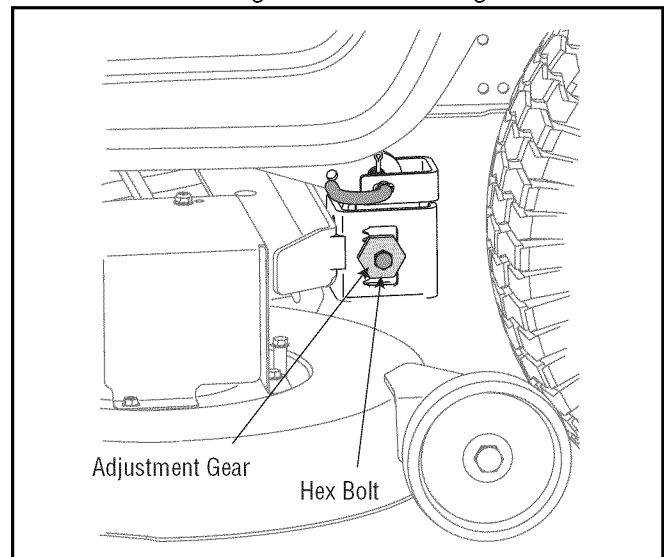

Figure 11
- Locate the two lock nuts on the front side of the stabilizer bracket. See Figure 11. Tighten the lock nuts to raise the front of the deck; loosen the lock nuts to lower the front of the deck.
- Loosen, but do NOT remove, the hex cap screw on the left deck hanger bracket. See Figure 11.